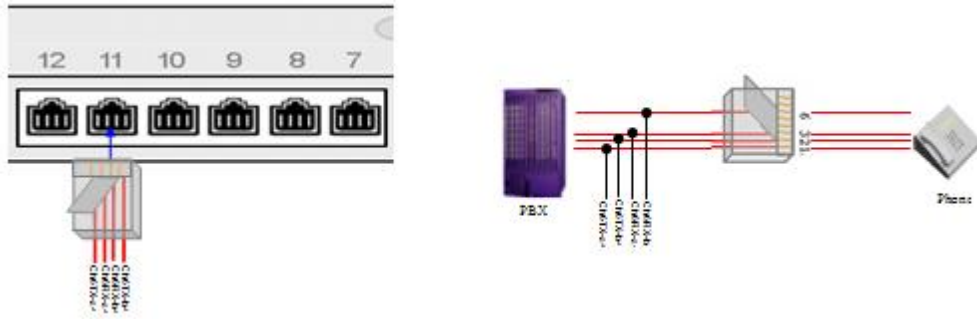

Figure 2-15
- 1) eON and AVAYA-4W digital phones: See Figure 2-15 below. In parallel, connect the 1st and 2nd leads of the communication line between the PBX and a phone to the 1st and 4th pins of each odd-numbered RJ11 jack on the adapter, and the 3rd and 6th leads to the 2nd and 3rd pins.